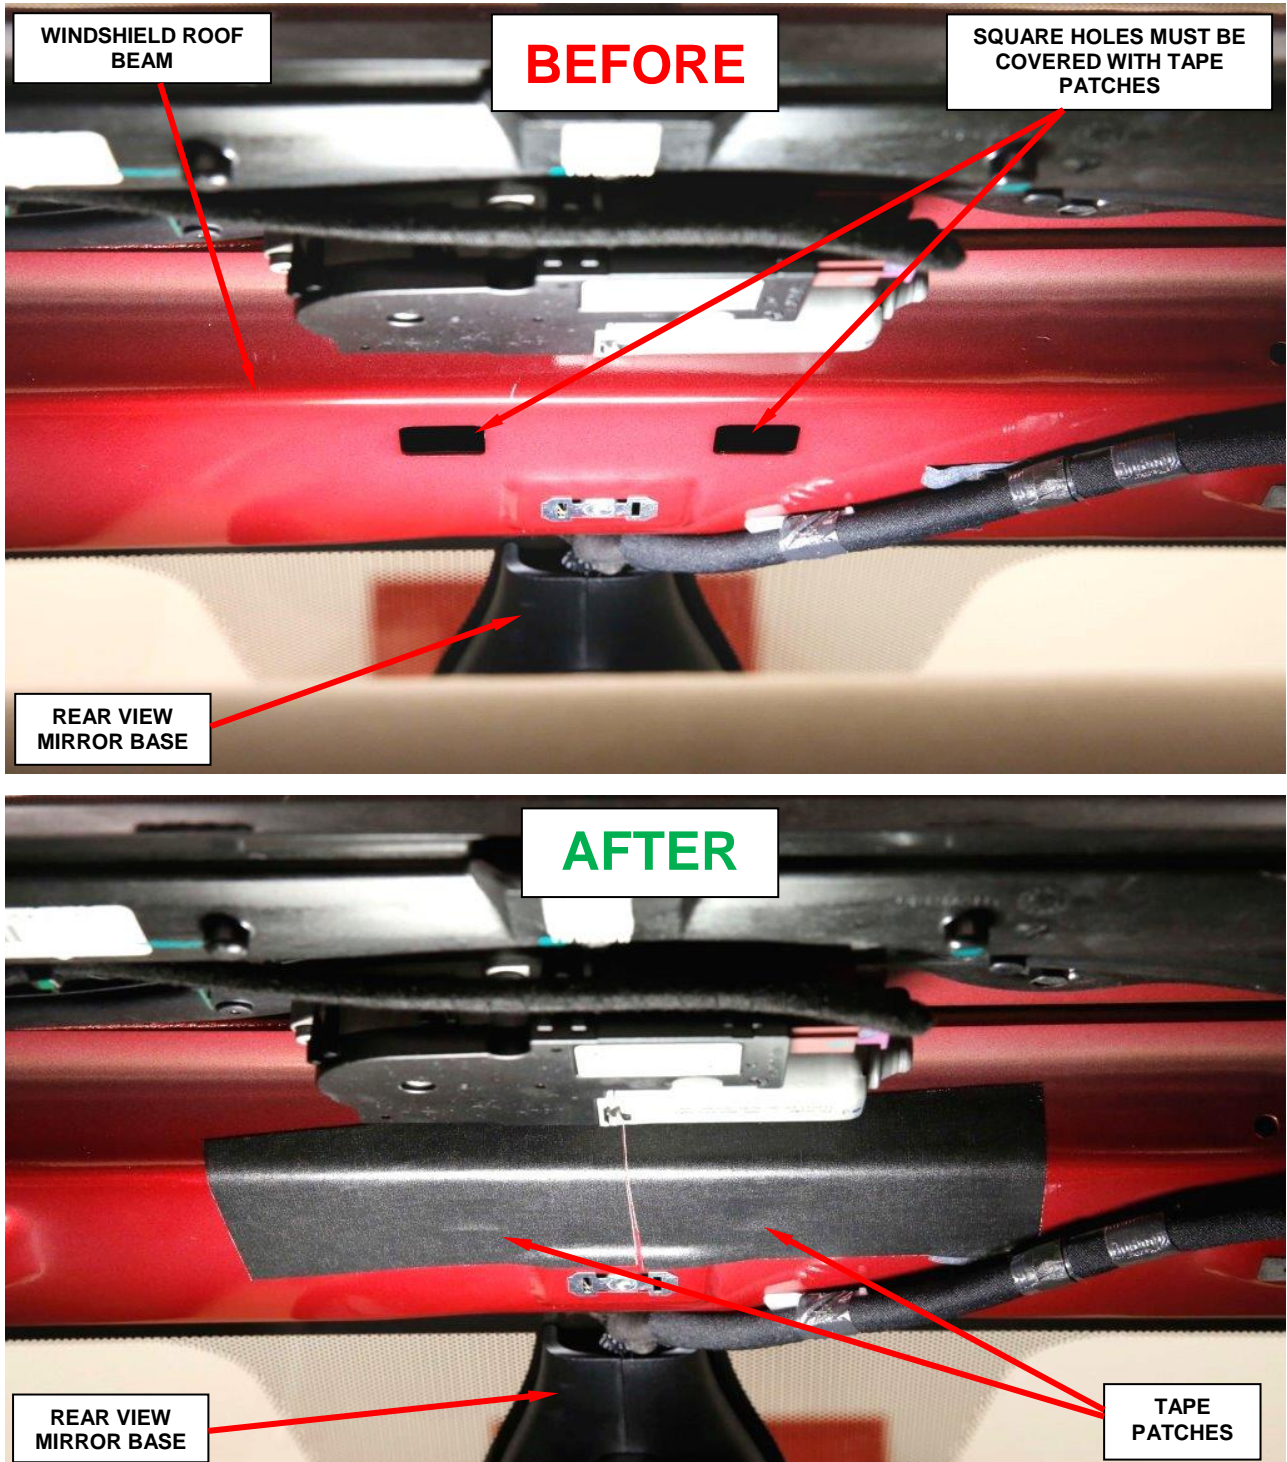

Figure 23 – Apply One Tape Patch Over Each Square Hole in the Windshield Roof Beam (vehicle with sunroof option shown)
50. Apply two tape patches over the square holes in the center of the windshield roof beam (Figure 23).